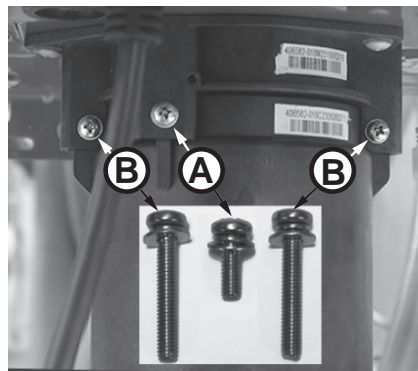

Figure 207 - Identify cartridge screws
- 6 Locate the three (3) screws securing the X3®/Bypass cartridge as shown in Figure 207. Remove the **(A)** M4-12mm screw and the two **(B)** M4-25mm screws from cartridge. Place screws aside in a safe place for reinstallation.